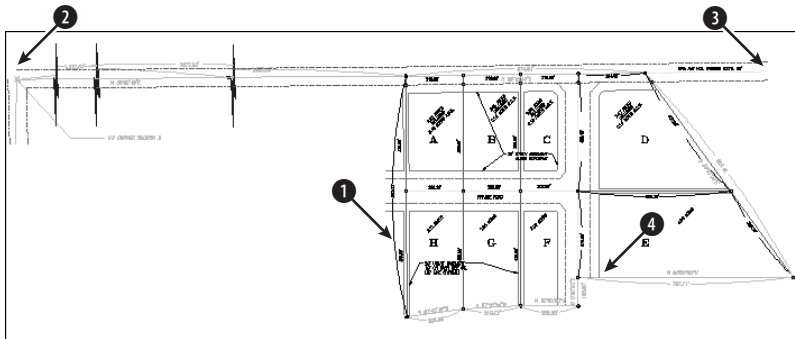

Figure 12-5: A civil engineering drawing of several plots of land
1. Open ab12-a.dwg from the CD-ROM if it is not already open from the previous exercise. This is a civil engineering drawing showing several plots of land, as shown in Figure 12-5. OSNAP should be on. Set a running object snap for endpoint.
2. Choose Tools ⇨ Inquiry ⇨ List. At the Select objects: prompt, pick ❶ in Figure 12-5. Press Enter to end object selection. The result is shown in Figure 12-6. Note the surveyor's units.
3. Choose Tools ⇨ Inquiry ⇨ Distance. At the Specify first point: prompt, choose the endpoint at ❷ in Figure 12-5, using the Endpoint running object snap. At the Specify second point: prompt, choose the endpoint at ❸. Here's the result:
4. Choose Tools ⇨ Inquiry ⇨ ID Point. At the Specify point: prompt, pick the endpoint at ❹ in Figure 12-5. Here is the result: